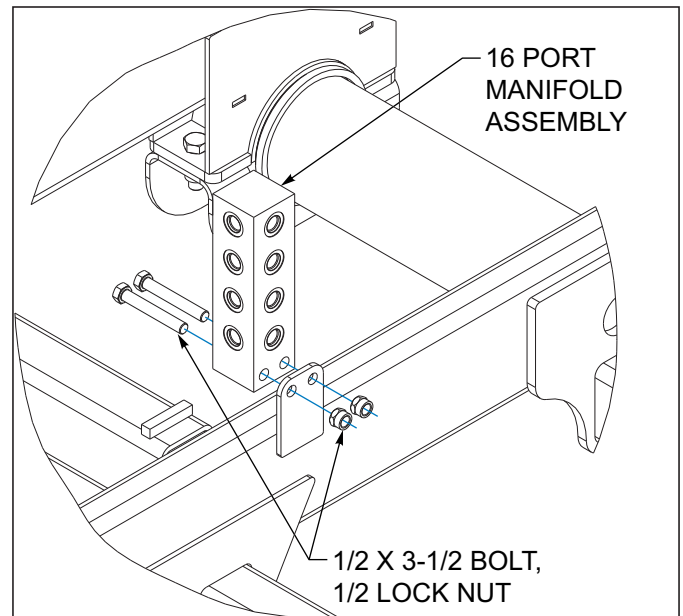

Figure 3-35: 16 Port Manifold Assembly
2. Models 8530-22'-35' install the lift/fold 16 port manifold at the center of the center frame to the welded mount plate using 1/2 x 3-1/2 bolts and 1/2 lock nuts *See Figure 3-35*.